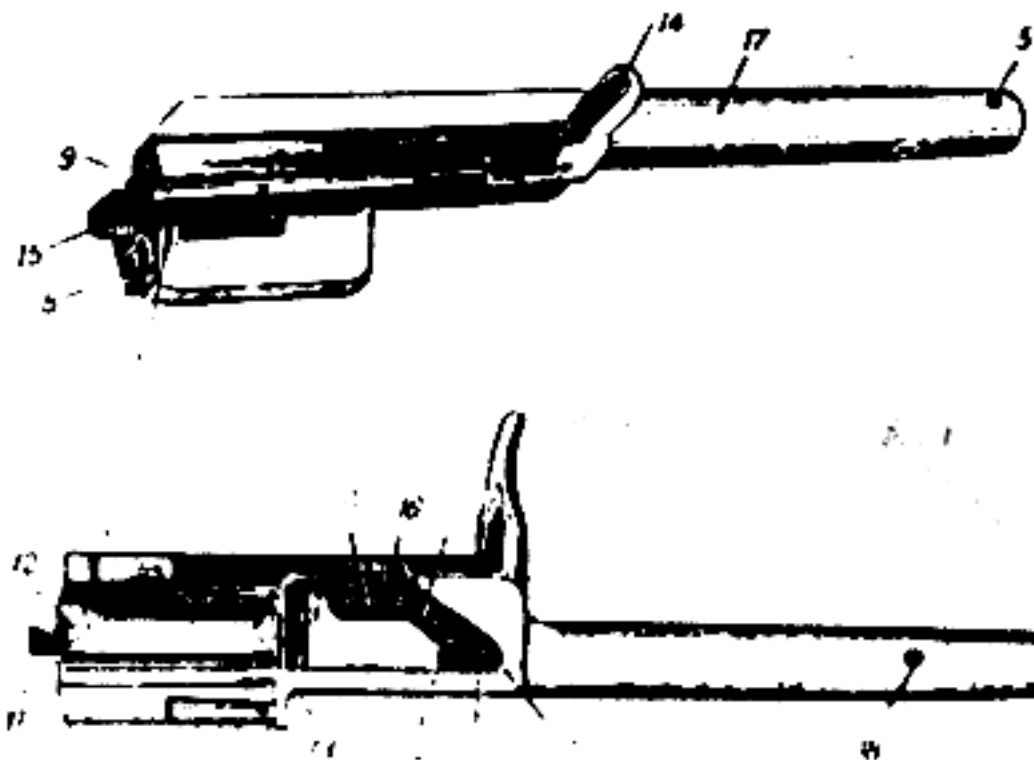

Figure 28. Operating rod (3-1).
The operating rod (fig. 28) has a lug in the rear portion with cylindrical channel (8) in which the rear end of the bolt is installed. In the sides of the lug there are grooves (9) which guide the operating rod in the receiver.
The connecting lug has a shoulder (1) which retains the rear end of the return spring; guide lugs (2) for holding the connecting lug in the receiver grooves; lug (3) for holding the receiver cover; recess (4) for lug (15) (see fig. 28) of the operating rod as it moves to the extreme rear position. In the guide there is a channel (5) for guiding the guide rod.
The full automatic sear is provided with a lever (1) on the upper end of which acts the full automatic sear disconnecter (see fig. 28) when the operating rod is moving to the extreme forward position; the full automatic sear (2); hole (3) for pin; hole (2a) for connecting the short end of the full automatic sear spring.